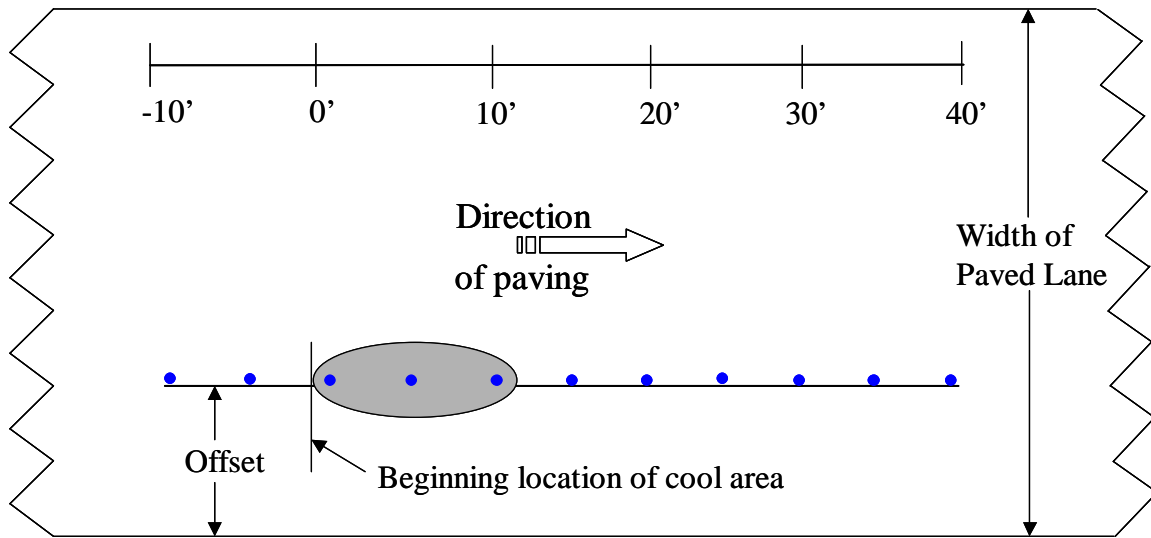
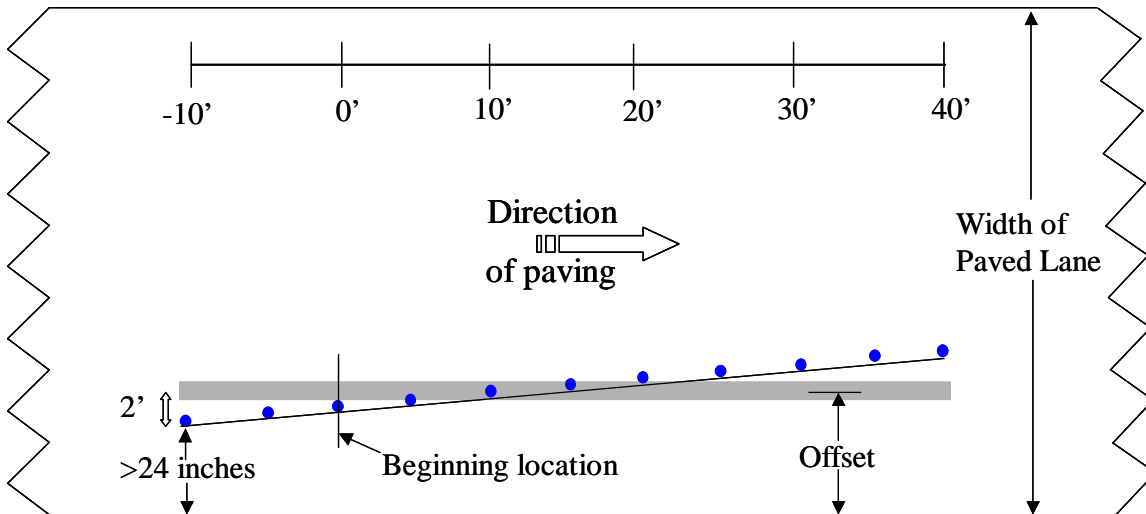

Figure 1. Offset and location of temperature differential for longitudinal scan.
Figure 2. Offset and location of temperature differential for transverse scan.
9. **How does the density operator know where to take the readings?** Whoever runs the temperature profile (contractor or DOT personnel) needs to mark the starting location and offset of the cool spot by going back through the longitudinal or transverse profile and seeing where the temperature drops. See Figure 1 for a visual representation of the offset and location for a longitudinal scan Figure 2 for a transverse scan.